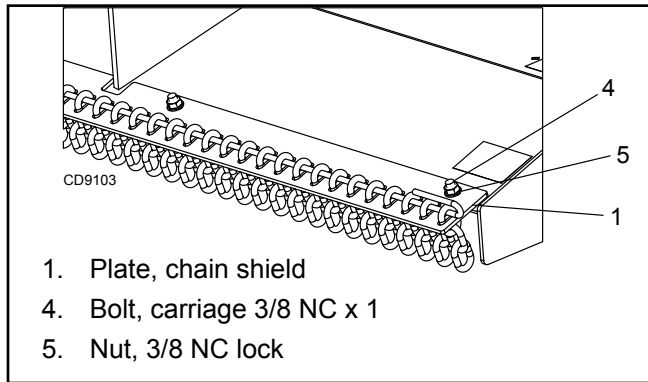

Figure 27. Chain Shielding Installation
1. Install chain shielding plate (1) on top rear edge of mower frame as shown in Figure 27.
2. Secure with carriage bolts (4) and flanged lock nuts (5).